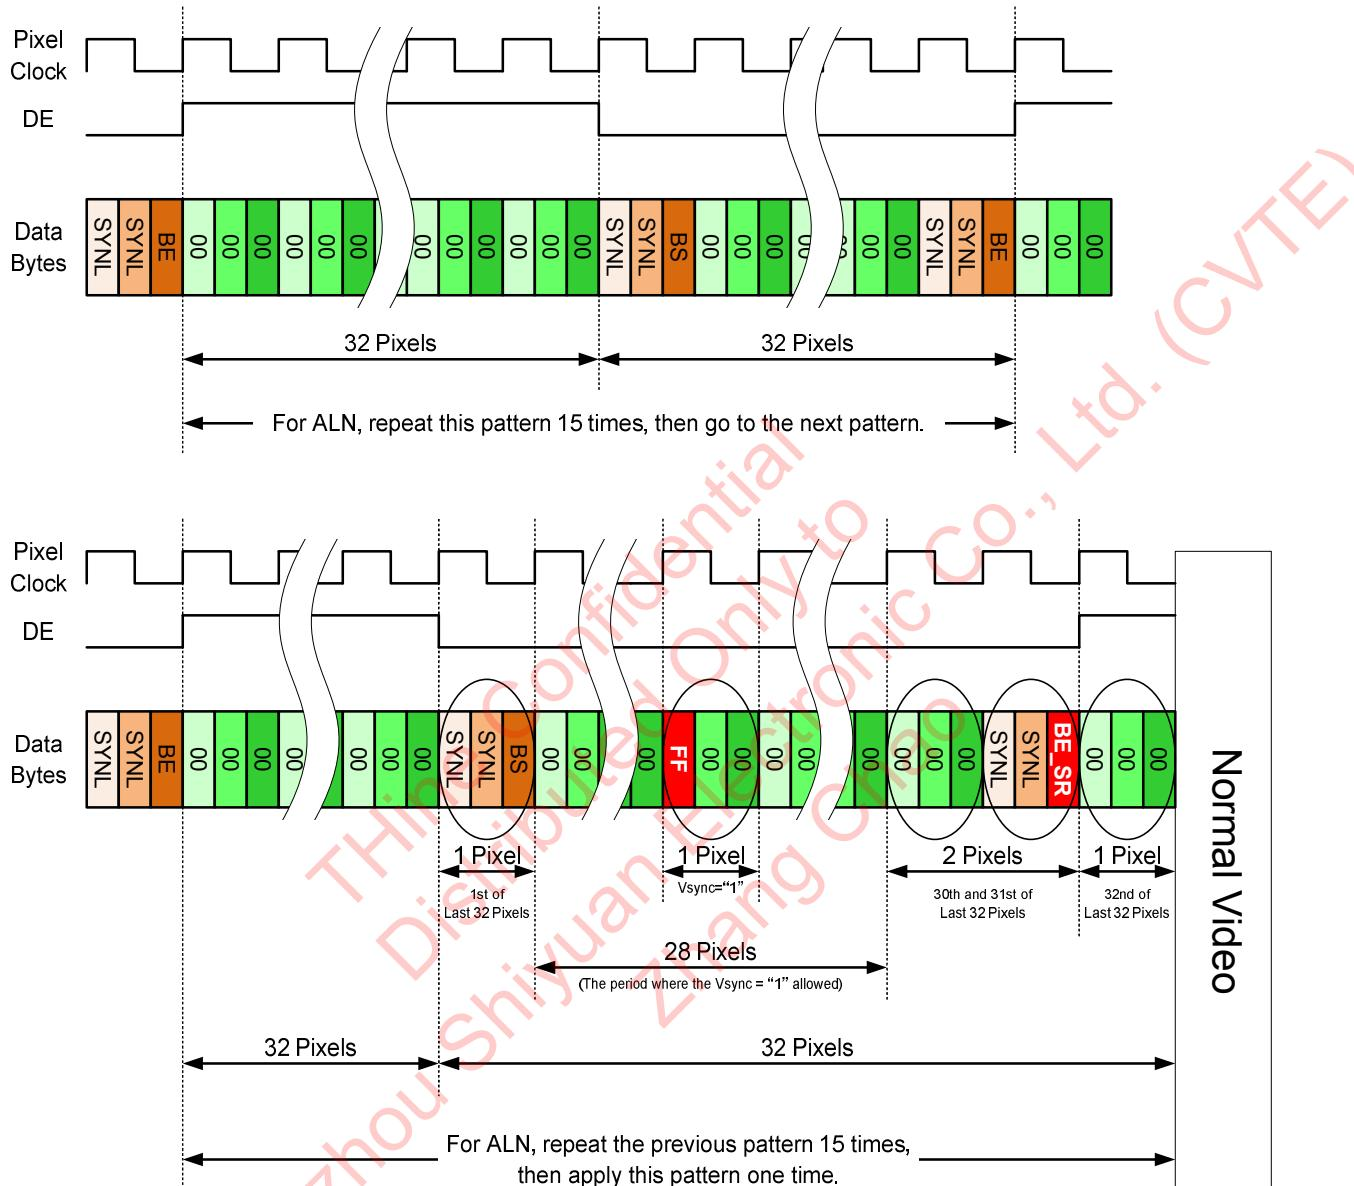

Figure 20 Packer Output Sequence of ALN Training (3byte mode)
- This 1 pixel cycle of Vsync should be set within the last 32 pixel counts of ALN training except for the 1st, 30th, 31st and 32nd pixel cycle. The detail of Vsync = “1” timing is shown in Figure 20.
ALN training example of packer output at 3byte mode is shown in Figure 20.